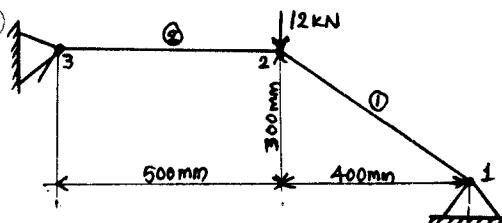

Fig Q3(b)
- b. For the two bar truss shown in Fig Q3 (b). Determine the nodal displacement. Take E = 200 GPa,  $A_e = 200 \text{ mm}^2$ . (08 Marks)